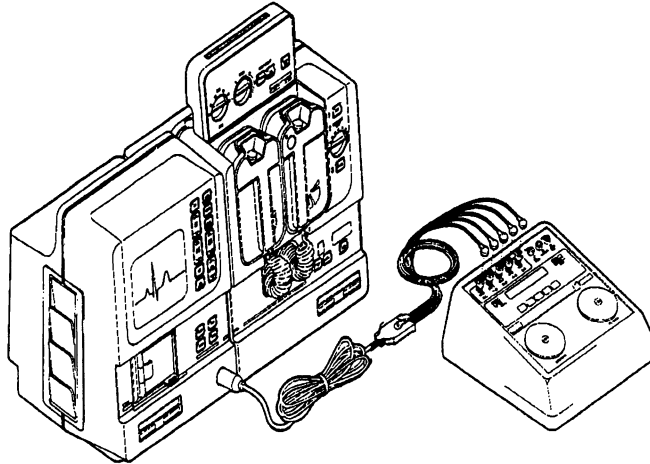

Figure 2.5. ECG Lead Configuration
- 2) Connect the ECG patient leads to the QED-6 as shown in *Figure 2.5*.